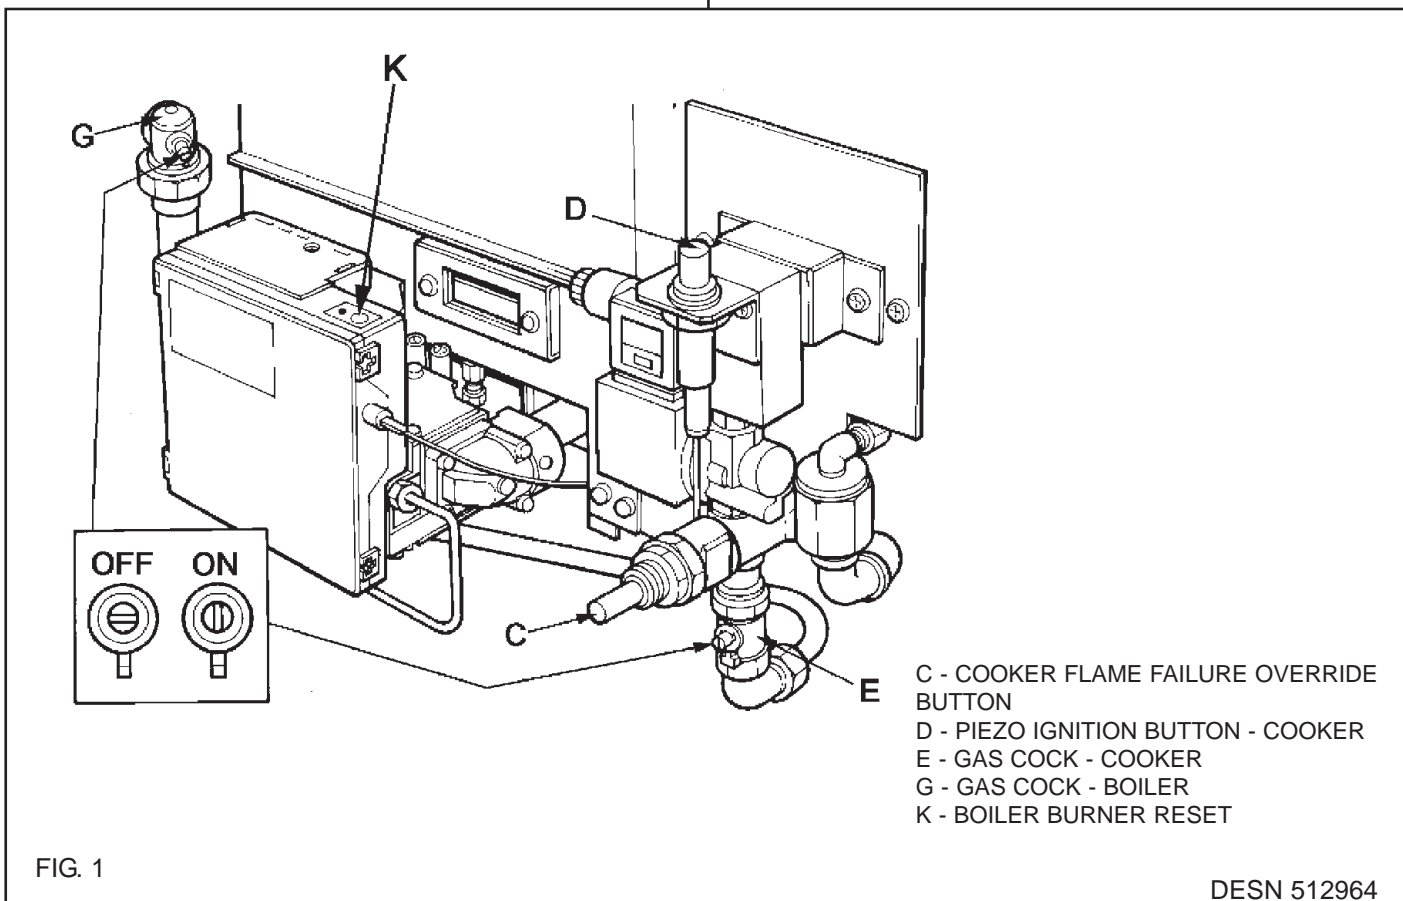

FIG. 1
This appliance is fitted with an automatic ignition unit that will light the main burner on demand. Should button (K) (see Fig. 1) be illuminated press button, this will allow the burner ignition to continue, should the burner illuminate again this will indicate a fault on the boiler burner, Contact your local Gas Safe Registered engineer to correct the fault.
Cooker (See Fig. 1)